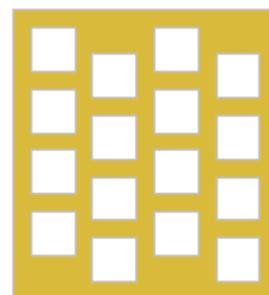

Fig. 3.3.28
**Interleave:** Adjust the vertical or horizontal position of even rows or columns, see Fig.3.3.28.